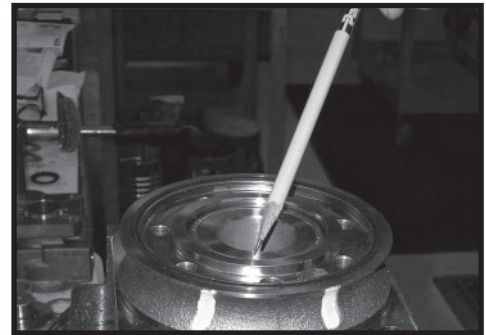

Figure 48
**NOTE: The coupling shaft (12) will be flush or just below the housing wear surface on Small Frame, Series TC, TS, TB, TE & TJ Torqmotors™ when properly seated while the coupling shaft (12) on Large Frame, Series TF, TL, TG, or TH Torqmotors™ will be approximately .10 inch (2.54 mm) below the housing wear plate surface to allow the assembly of thrust bearing (11). The coupling shaft must rotate smoothly on the thrust bearing package. SEE FIGURE 48.**